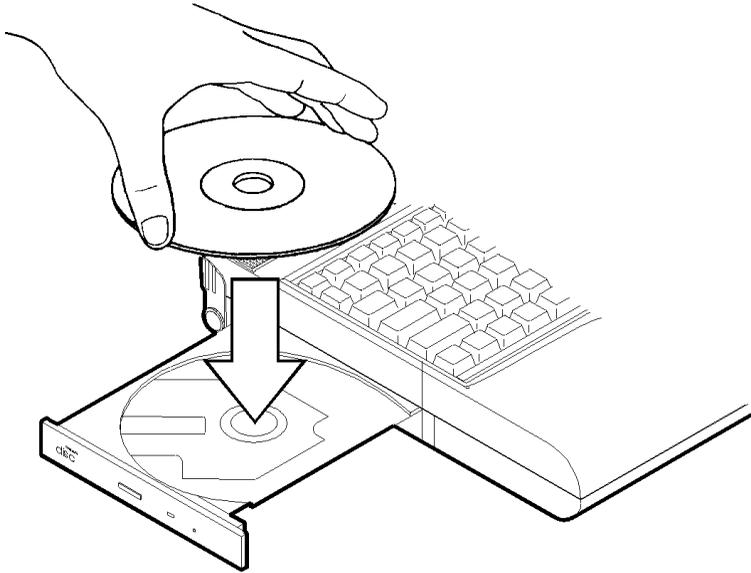

Figure 2-16
4. Carefully load the CD on the disc tray with label-side facing up. Press it gently to ensure it fit into place (Figure 2-16).